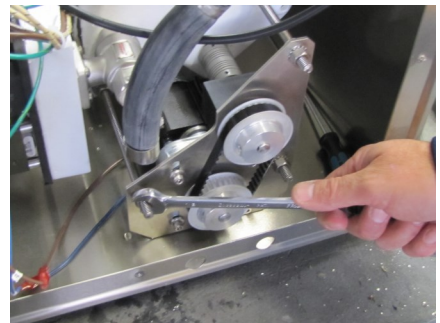

Figure 27
27. Secure the agitator motor assembly in place with the three nuts removed in step 5. Reference Figure 27.